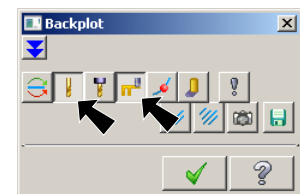

Fig. 65
Step 4. Turn on (button depressed) **Display tool**  and **Display rapid moves** , **Fig. 65**.